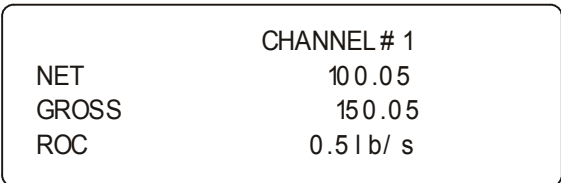

FIG. 3-25 RATE OF CHANGE READING
Step 2. Press the Display button to see the Gross Weight, Net Weight and Rate of Change. (See Fig. 3-25)